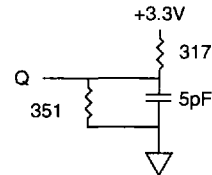

Figure 2
- Output loading is specified with CL = 5pF as in Figure 2.
- The load used for VOH, VOL testing is shown in Figure 2. AC load current is higher than the shown DC values. AC I/O curves are available upon request.